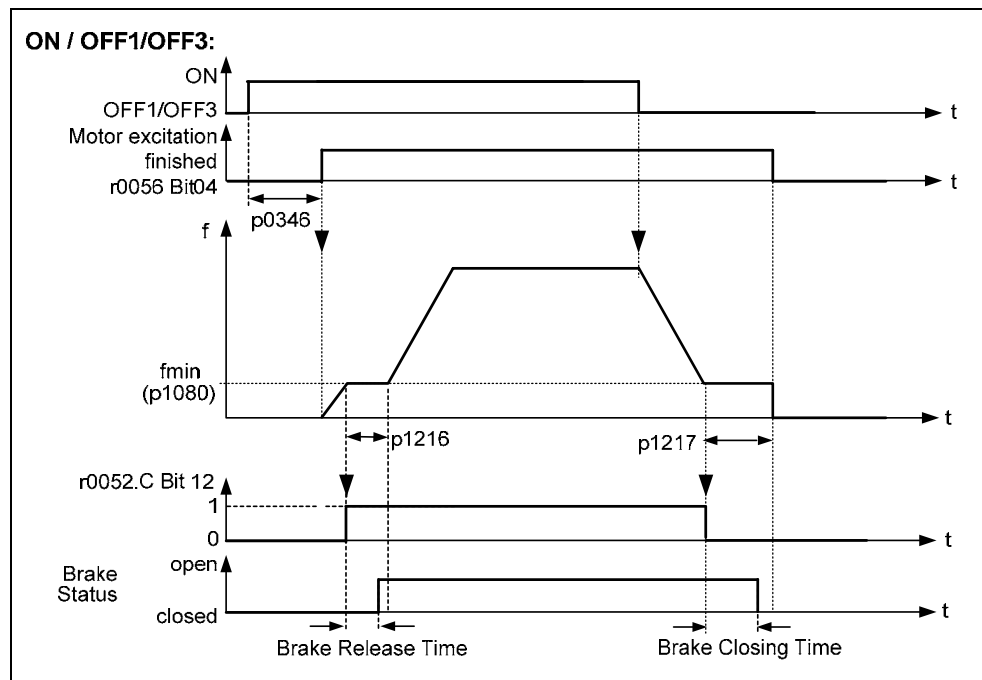
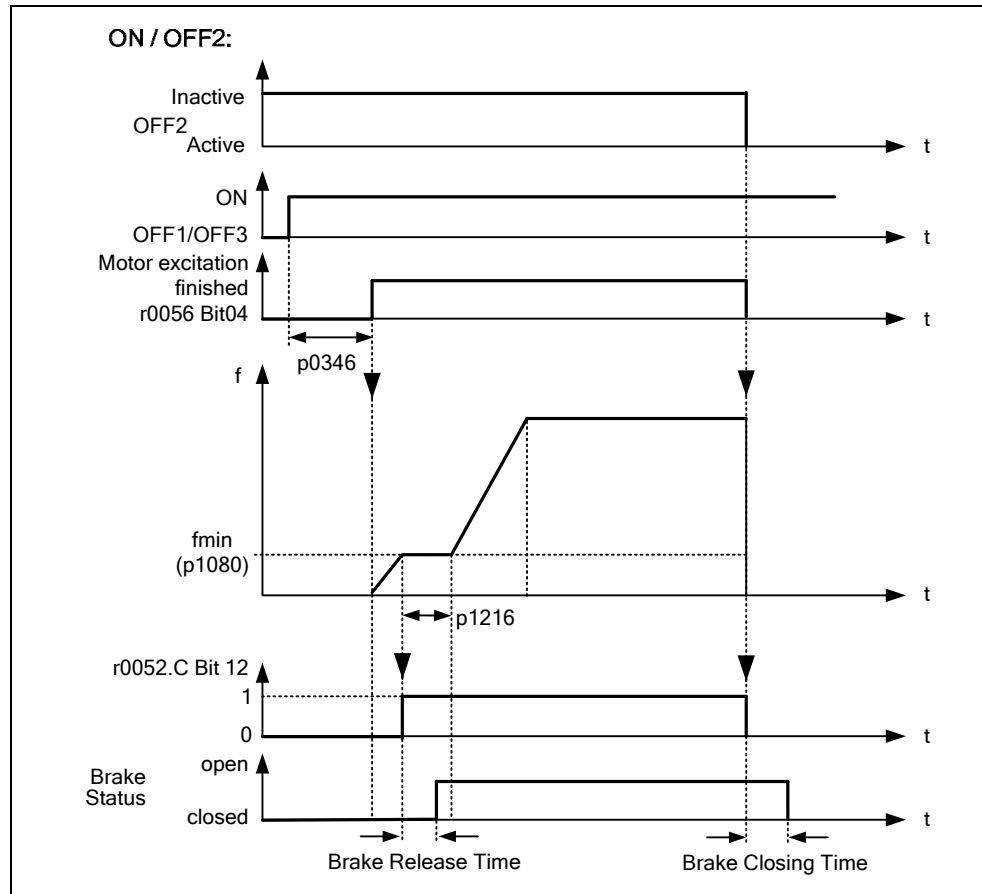

Fig. 3-58 Motor holding brake after ON / OFF1
Fig. 3-59 Motor holding brake after OFF2
Before opening the brake, the pulse inhibit must be removed and a current impressed which keeps the drive in that particular position. In this case, the impressed current is defined by the min. frequency P1080. A typical value in this case is the rated motor slip r0330. In order to protect the motor holding brake from continuous damage, the motor may only continue to move after the brake has been released (brake release times lie between 35 ms and 500 ms). This delay must be taken into account in parameter P1216 "Holding brake release delay" (refer to Fig. 3-58).
The motor holding brake is either closed using OFF1 / OFF3 or OFF2. For OFF1 / OFF3, when the minimum frequency P1080 is reached, the motor is operated at this frequency until the brake has been applied (closing times of brakes lie between 15 ms and 300 ms). The actual time is specified using parameter P1217 "Holding time after ramp down" (refer to Fig. 3-58). If, on the other hand, an OFF2 command has been output, then independent of the drive state, the status signal r0052 bit 12 "Motor holding brake active" is reset. This means that the brake immediately closes after OFF2 (refer to Fig. 3-59).
- ◆ To open/close, the digital output controls the motor holding brake at point 1/2 (refer to Fig. 3-58). In this case the prerequisite is that the motor holding brake P1215 has been activated as well as the selection of the motor holding brake at the digital output.